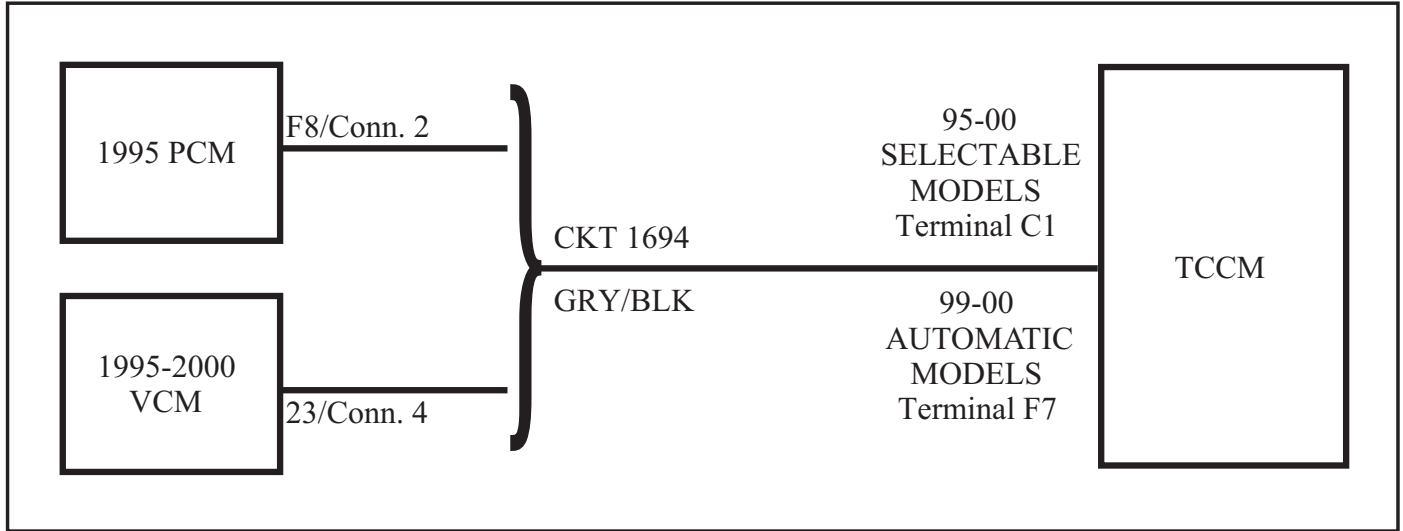

Figure 1
**CORRECTION:** The PCM (Powertrain Control Module) for some 1995 models, or the VCM (Vehicle Control Module) for most 1995 and all 1996 to 2000 model year trucks, provides 12 volts from the engine computer to the transfer case shift control module via circuit 1694. (See wire diagram in figure 1) When the driver selects 4 wheel drive low range, the TCCM internally grounds circuit 1694 and the voltage on circuit 1694 drops to zero. The PCM/VCM uses this information to alter shift scheduling while the vehicle is in 4 wheel drive low range to prevent an engine over speed condition.